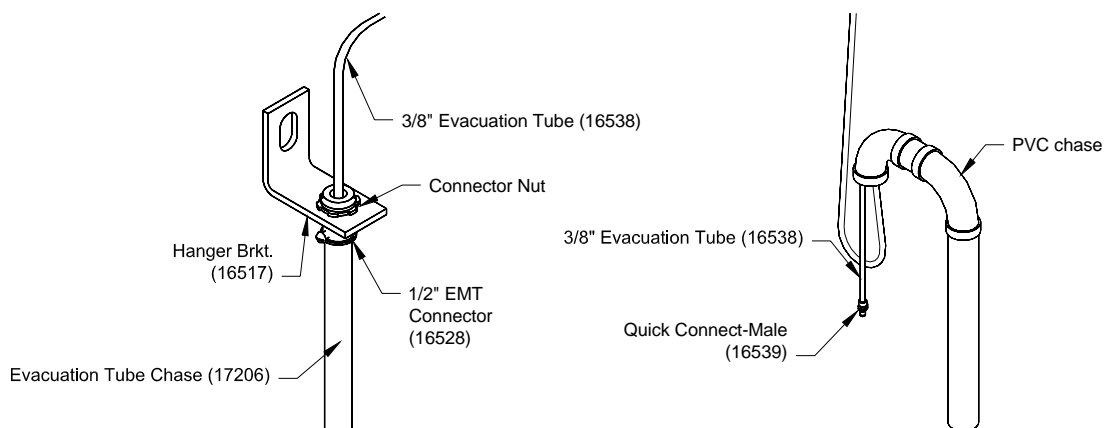

Fig. 9
20. Starting at the power unit, chase the 3/8" evacuation tube through the 2" PVC chase into the lift containment unit and into the evacuation tube chase (1/2" EMT, factory installed) until the evacuation tube extends to the bottom of the lift containment. Assemble the quick disconnect to the top end of the 3/8" evacuation tube. Refer to Figure 9.